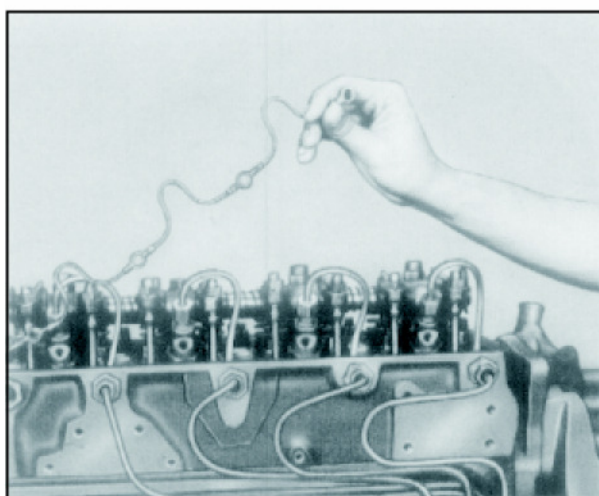
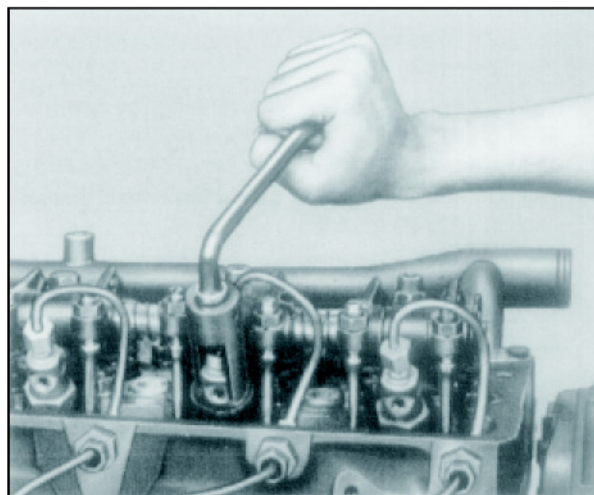

Fig. 14
Fig. 15
6. Unscrew leak off line banjo bolts along with sealing washer and remove leak off line assembly Fig. 14. Unscrew and remove pressure screw holding nozzle holder to the cylinder head with the help of socket, 000 589 0209. Fig. 15.